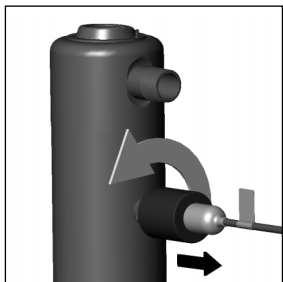

Figure 6
- Unscrew the sensor from the sensor port in the side of the reactor (Figure 6).